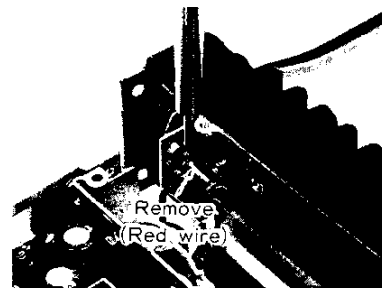

Figure 5d
- e) Pull the heatsink back slightly from the chassis (Figure 5d), and unsolder the heavy red wire from the stand-off.